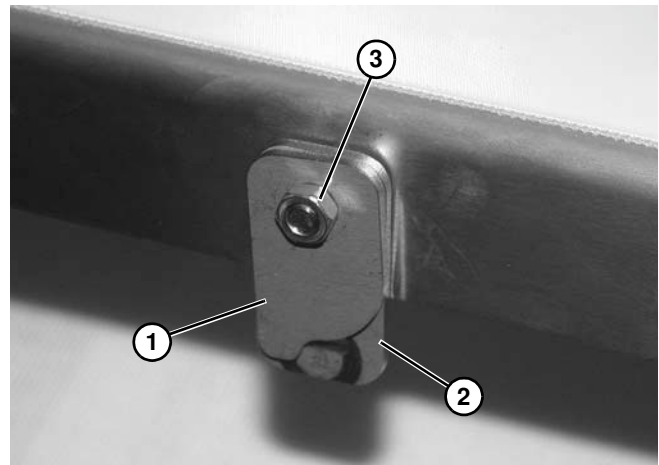

Figure 32
3. Install clip bracket (Figure 32, item 1) onto shaft bracket (Figure 32, item 2) and carriage bolt. Secure with nut (Figure 32, item 3). Leave assembly loose. Do not tighten at this time. Repeat on opposite side of conveyor.